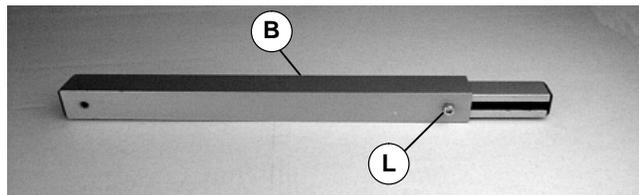

Figure 15
- Loosen screw (L of Figure 15) of adjustable bar (B).